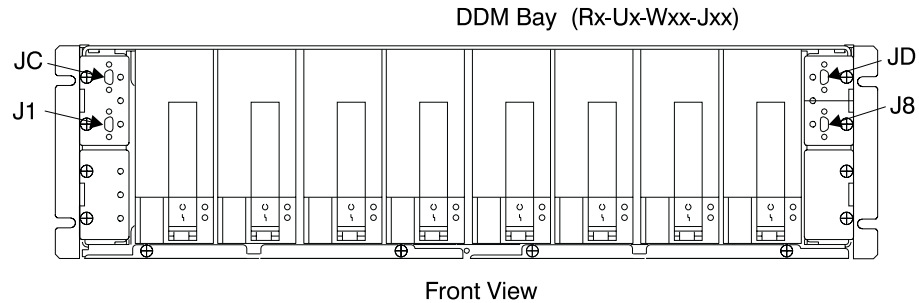

Figure 74. DDM bay SSA Connector Locations (S007693I)
1. Locate the SSA cable displayed on the service terminal as possible FRU. This SSA cable will be connected between two separate DDM bays. The service terminal will identify the drawer and SSA connector that each end of the SSA cable is connected to. To locate a DDM bay, see "Locating a DDM Bay or SSA DASD Model 020 or 040 Drawer in a 2105 Rack" in chapter 7 of the *Enterprise Storage Server Service Guide, Volume 3*. To locate SSA cable connectors on a SSA DASD drawer, see Figure 74 on page 157.